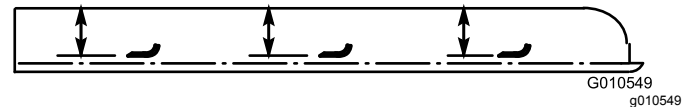

Figure 29
- Rotate the blade until the ends face forward and backward. Measure from the inside of the cutting unit to the cutting edge at the front of the blade (Figure 29), and remember this dimension.